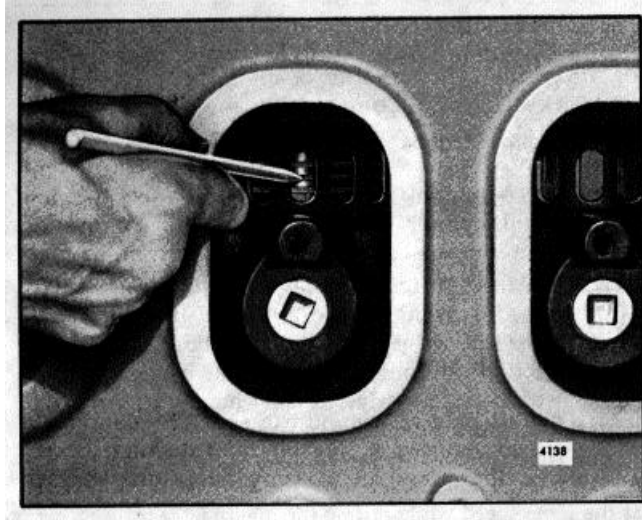

Fig. 3 - Inspecting Piston Rings
- A. Piston rings may be stuck or broken. To determine the condition of the rings, remove the air box cover and inspect them by pressing on the rings with a blunt tool (Fig. 3). A broken or stuck ring will not have a "spring-like" action.